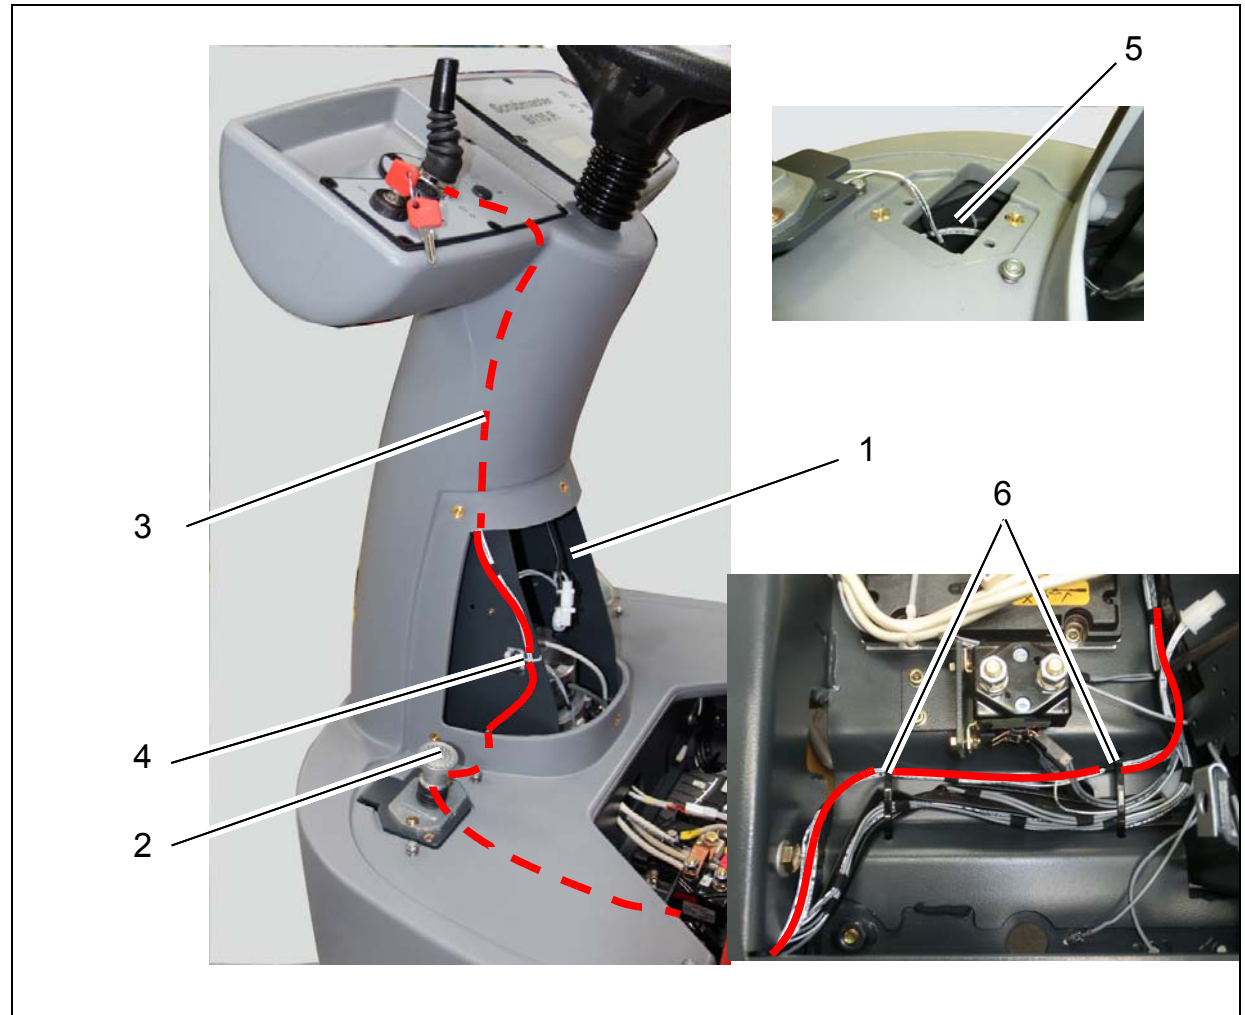

Fig. 8
1. Disassemble the hood of the steering column (Fig. 8/1) and the brake pedal (Fig. 8/2).
2. Route the W78 cable loom (Fig. 8/3) laterally along the inside of the steering column and fix it using cable ties (Fig. 8/4).
3. Run the W78 cable loom in front of the brake pedal (Fig. 8/5) and route it into the electronics compartment.
4. In the electronics compartment, route the W78 cable loom through the available cable ties (Fig. 8/6).